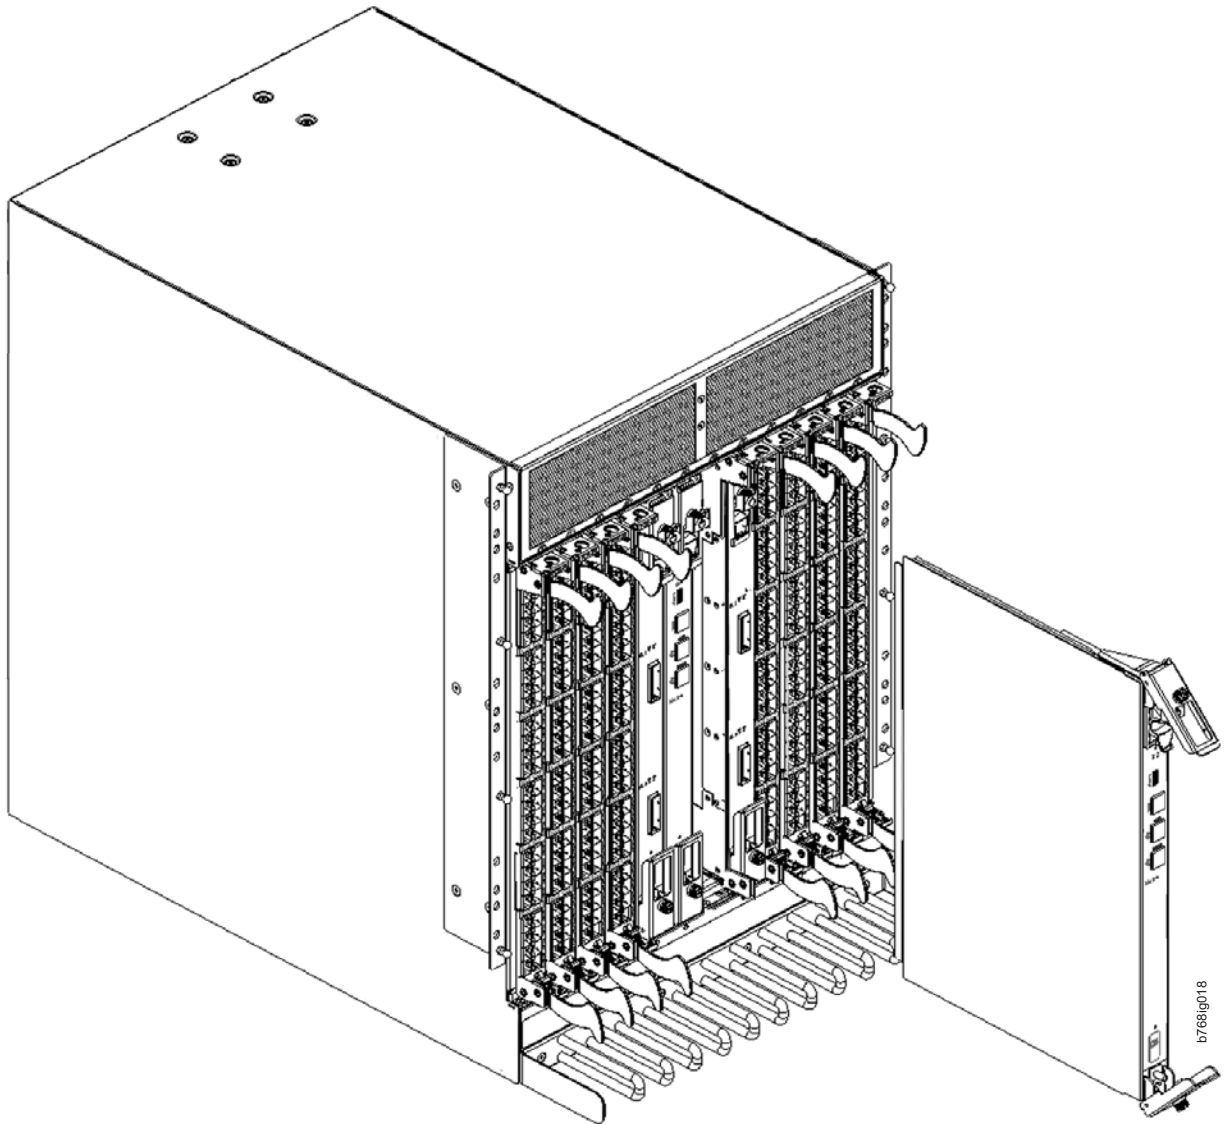

Figure 33. Removing the control processor (CP8) blade
2. Power off the blade by sliding the slider switch in the top ejector down to the off position (see Figure 33 on page 79).
5. Open both ejectors simultaneously to approximately 45 degrees and pull the CP blade out of the chassis (see Figure 33 on page 79).